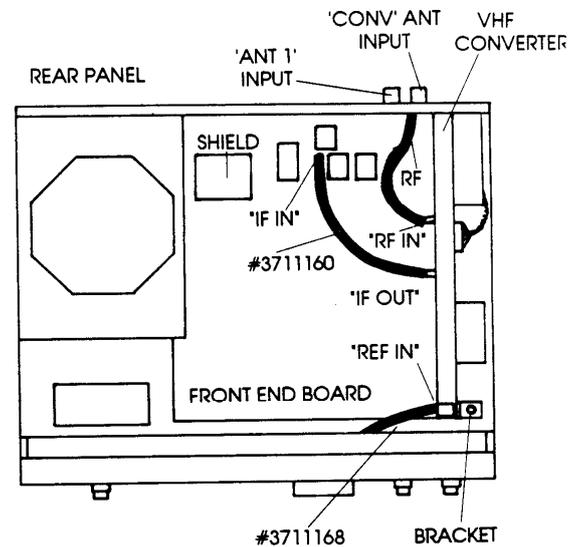

FIGURE 8 R8 TOP VIEW
11) Position the R8 receiver so it rests on its bottom chassis with front panel facing towards you. Plug the unconnected end of the 26' 'REF' coaxial cable #3711168, into the 'REF IN' connector located on the VHF converter assembly as shown in Figure 8.
12) Locate the factory installed coaxial cable connected to the rear panel 'CONV' antenna input connector. Disconnect the terminal end of this coax from the Front End Board connector. Plug the coax cable into the 'RF IN' terminal of the VHF Converter as shown in Figure 8.